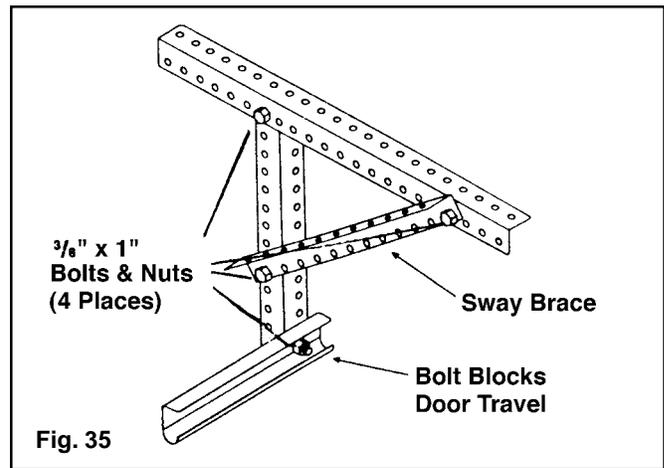

Fig. 35
**Step 7:** Rear track hangers need to be made at this time. Use 13 gauge or  $\frac{3}{32}$ " material. These are not provided with the standard hardware. They are used to attach the rear of the horizontal track to the ceiling joist. Enough angle iron or punched angle should be purchased to make two rear track hangers. These hangers must be strong enough to hold the full weight of the door. Attach a bolt at least 1" long through the end of each track to stop the door at the end of its travel. (FIG. 35)